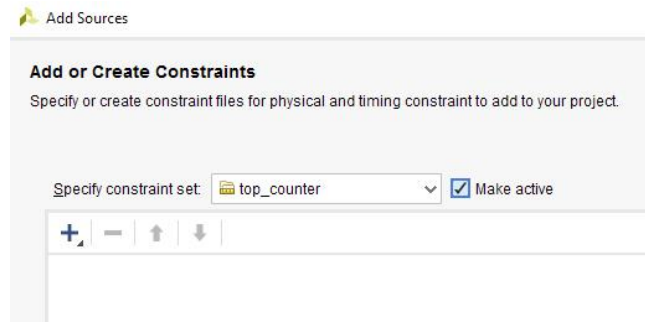

Figure 44
7. In this window check **Make active** in front of the **top_counter** constraint set name (Figure 44)